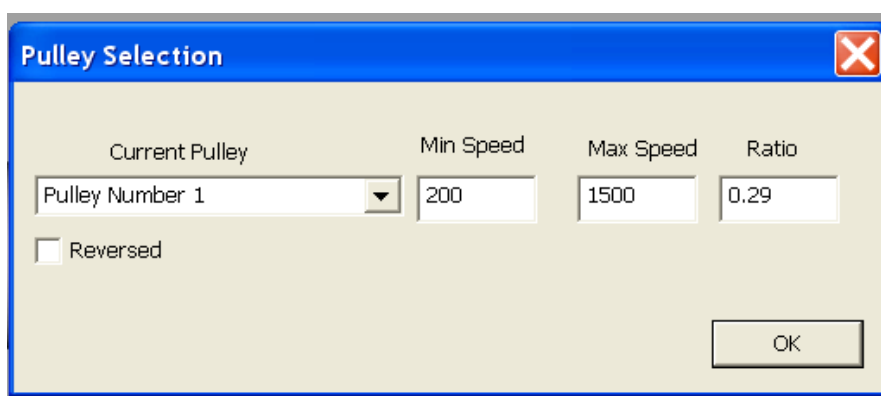

Figure 4
Mach3 needs to know the difference in rpm between the driving motor and the spindle in terms of an accurate ratio. This ratio (which needs to be expressed as Spindle rpm to Motor rpm) must be calculated or measured and entered into Mach3 in the dialog box shown in Figure 4.
4. Enter 0.289855 into the "ratio" dialogue box as shown in Figure 4. This is all Mach3 needs for the pulley ratio.
1. In Mach3, Use *Config / Spindle Pulleys* to open the dialogue box shown in Figure 4.
3. Set your desired minimum and maximum spindle rpm. I used 200 and 1500rpm as shown in Figure 4. My minimum designed speed was 250rpm and maximum designed speed was 1150rpm. Choosing 200 and 1500rpm as shown ensures that Mach3 does not detect and present an error unless the actual speeds exceed the set limits during normal operation.